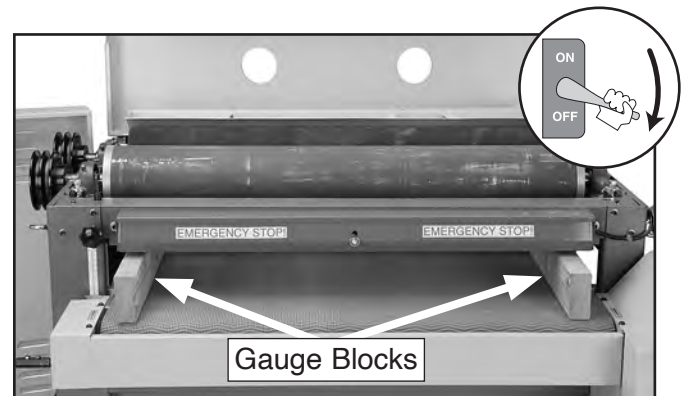

Figure 71. Example of gauge blocks in position for adjusting pressure roller height.
3. Position gauge blocks on each side of conveyor table and under all pressure rollers, as shown in **Figure 71**.